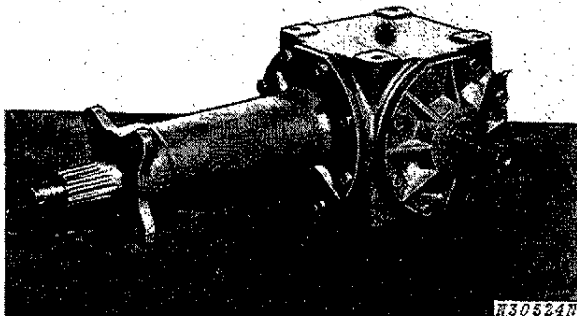

Fig. 17-Gear Case
9. Place the gear case on a bench or table in a well lighted work area (Fig. 17).